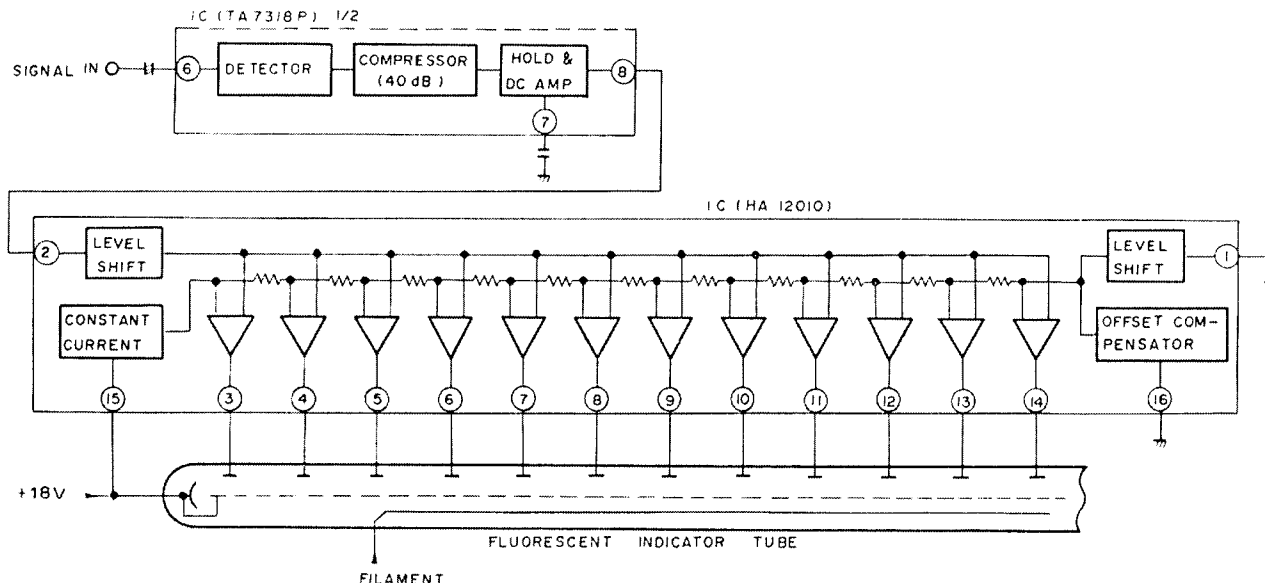

Fig. 4-12 Power indicator circuit
An outline of the FL tube drive circuit is shown in Fig. 4-12. The output circuit signal is applied to pin no.6 (4) of the IC (TA7318F-A). The IC contains a detector circuit, compressor (40dB), and peak hold circuit for both left and right channels. The dynamic range of the signal is thus contracted by 40dB to obtain a "peak held" DC voltage.